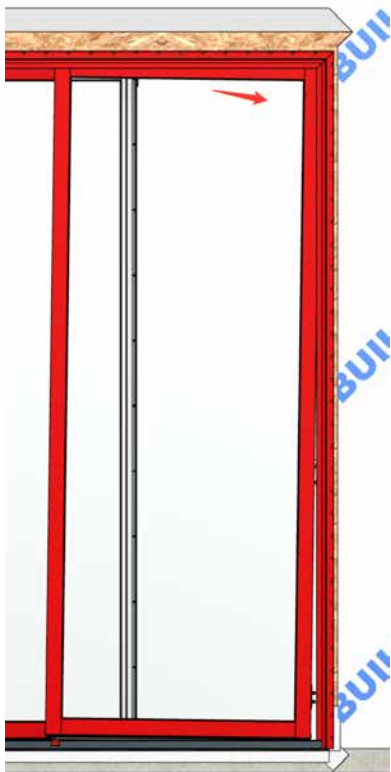

Fig P9
- With one side of the panel resting on the pry-bar and the panel still approximately 2" from the jamb, tilt the top of the panel into the jamb (Fig. P9).